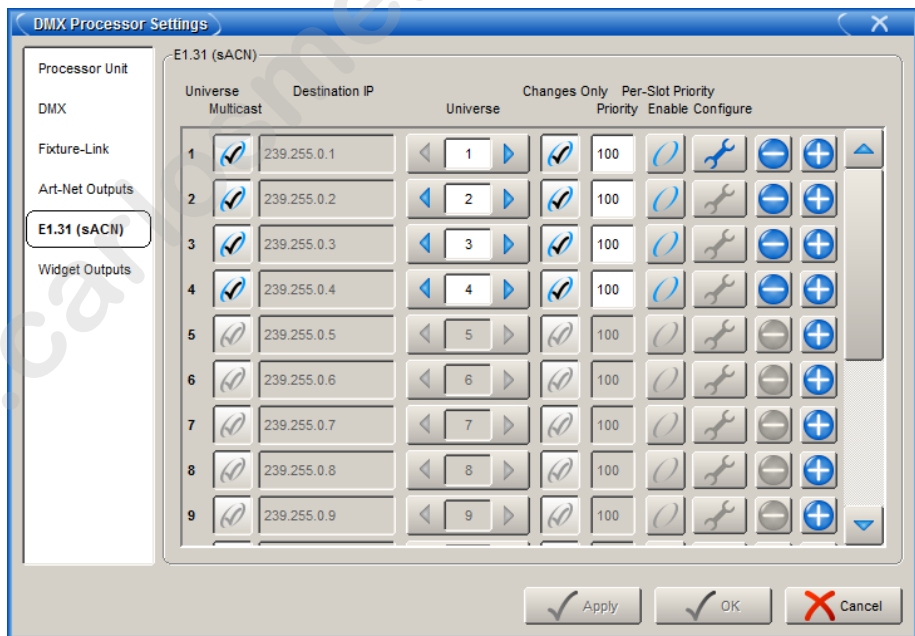

Figure 12.10. E1.3.1 pane of the DMX Processor Settings window
3. Select the E1.3.1 pane of the DMX Processor Settings window, see *Figure 12.10, “E1.3.1 pane of the DMX Processor Settings window”*.